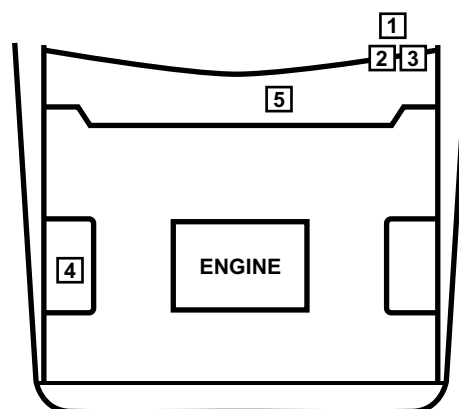

Figure 15-1 Carbureted engine common connector locations
- “Carbureted engine common connector locations” on page 166 (Table 15-1, Figure 15-1)